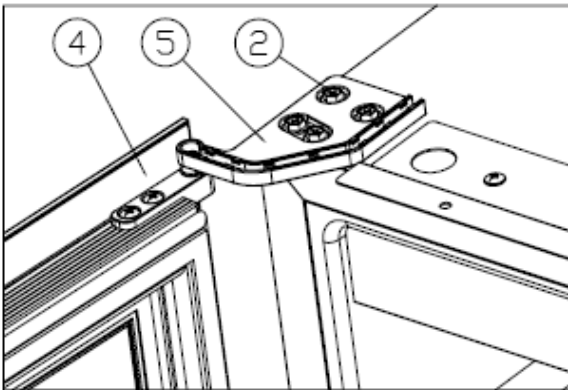

Figure 6
- ✧ Turn the door ④ 180 degrees, and insert the right lower hinge, screw tight M5*16 screws ②. [Figure 6] Door reversing is finished.